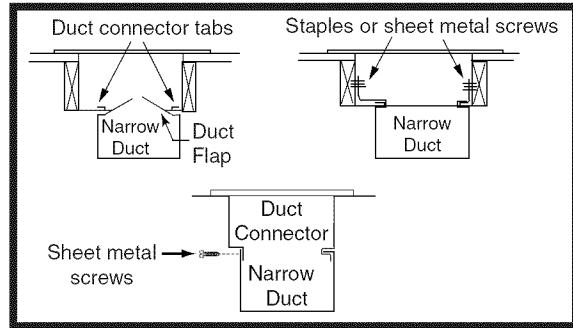

Figure 12. Narrow Ducts
4. Bend the tabs on the bottom of the duct connector upwards and as tight as possible against the supply air duct (Figure 12).